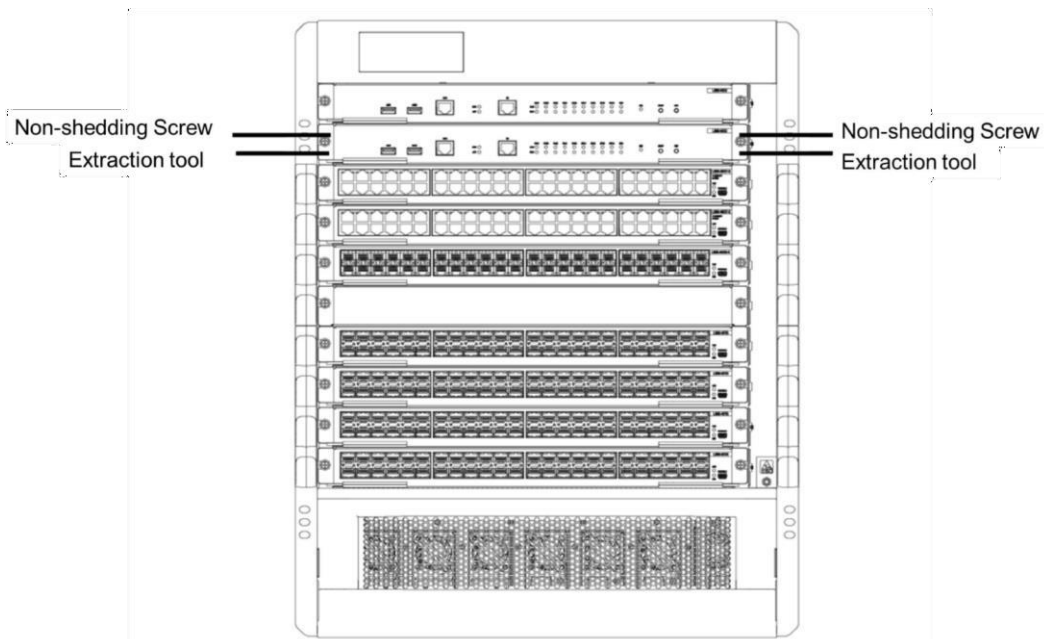

Figure 3-1 Components at the edge of the board
- 3) Plug out the insertion board. See figure 3-1.